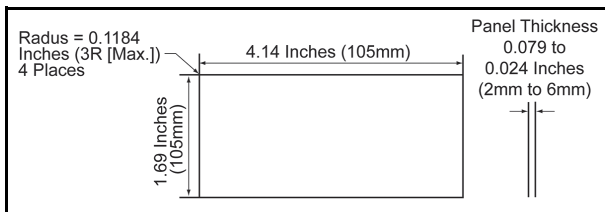

Figure 2-1 Taiko Bezel Cut-Out Dimensions
1. Create the correct sized opening required to install the Taiko™ Bezel, using the Panel Cut-Out Dimensions shown in Figure 2-1.